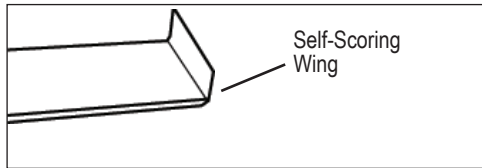

FIG. 6
**Sharpening Self-Scoring Blades:** It is important to keep the "wings" on a self-scoring blade sharp (Figure 6). Use a file on the wing edge. Sharpen the flat part of the blade, the same way as described above.
5. Start machine with ignition switch. Both a red and green light will illuminate (Figure 6). Do not hold in the “on” position for more than five seconds.